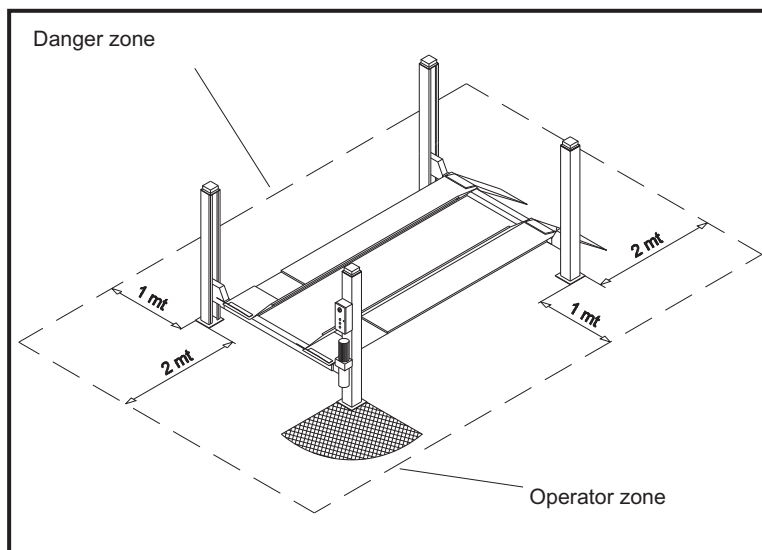
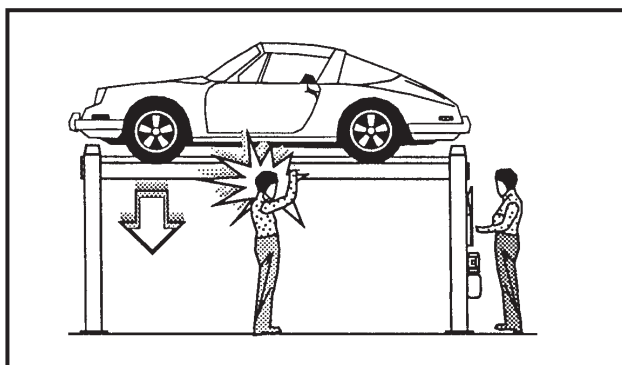

Fig.19
Fig.29
During lift functioning, the operator must remain in the control station as defined in figure 19.
The presence of persons beneath the cross-pieces and/or the platforms when they are moving, or the presence of persons inside the danger zone indicated in figure 19 is strictly prohibited.
- do not enter the safety zone while vehicles are being lifted (see Fig.19),
When the platforms and the vehicle are lowering personnel are prohibited from entering the area beneath the movable parts of the lift (fig.29). The lift operator must not start the manoeuvre until it has been clearly established that there are no persons in danger zone (fig.19, 29, 30).